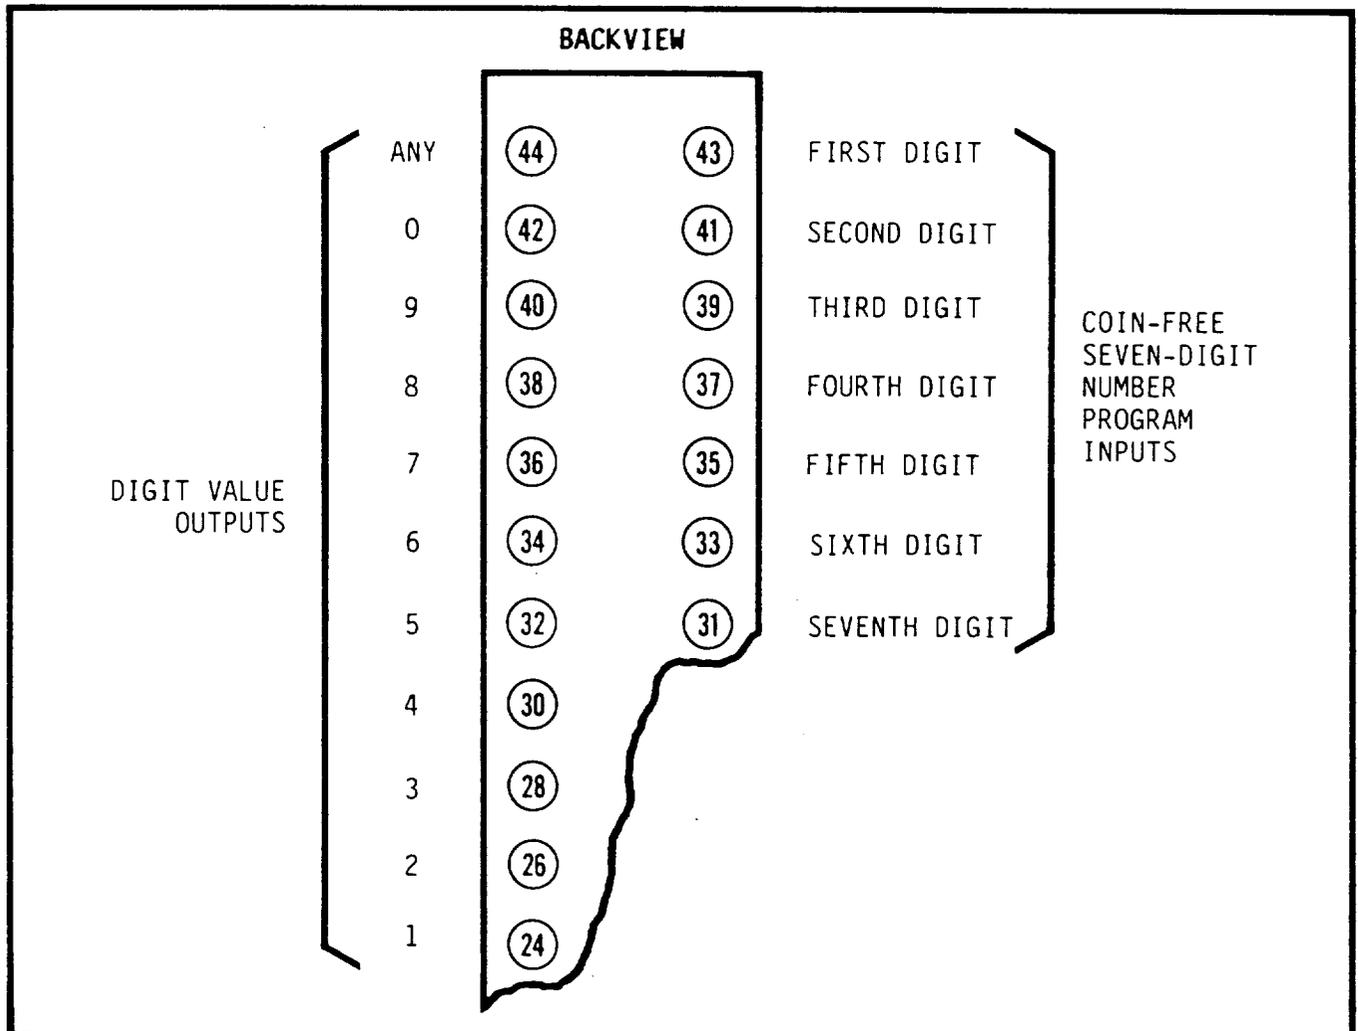

Figure 10 Seven-Digit-Number Program Pins
5.08 One particular seven-digit number may be programmed as coin-free. The output pins for the value of each digit are strapped to the input pins in the sequence of the digits in the number to be dialed. The first seven pins at the top of the right hand row are the inputs for this program, first digit at the top, as shown in Figure 10. The digit value output pins are at the top of the left hand row.